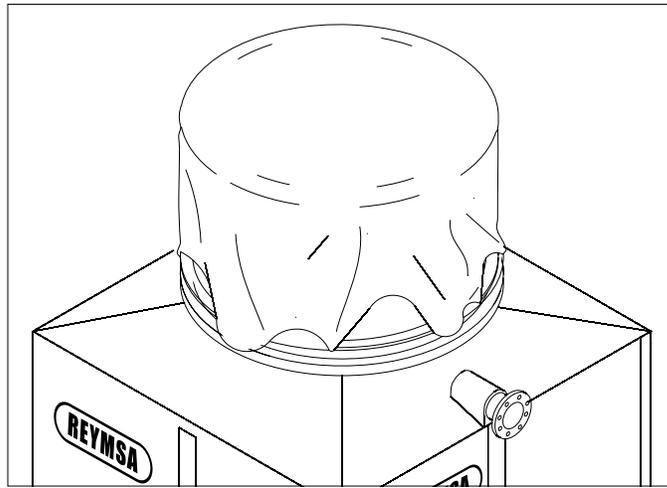

Figure C-12: Fan discharge covering
- To avoid any ice formation due to rain or snow and keep out dirt from inside and outside the towers components, covered them. Especially the fan discharge opening. (As shown in Figure C-12) Taking advantage that the system is turned off, you may want to do Tower service and maintenance. (Adjust motor base screw, balance and adjust fan assembly, clean the inside and outside of the equipment).